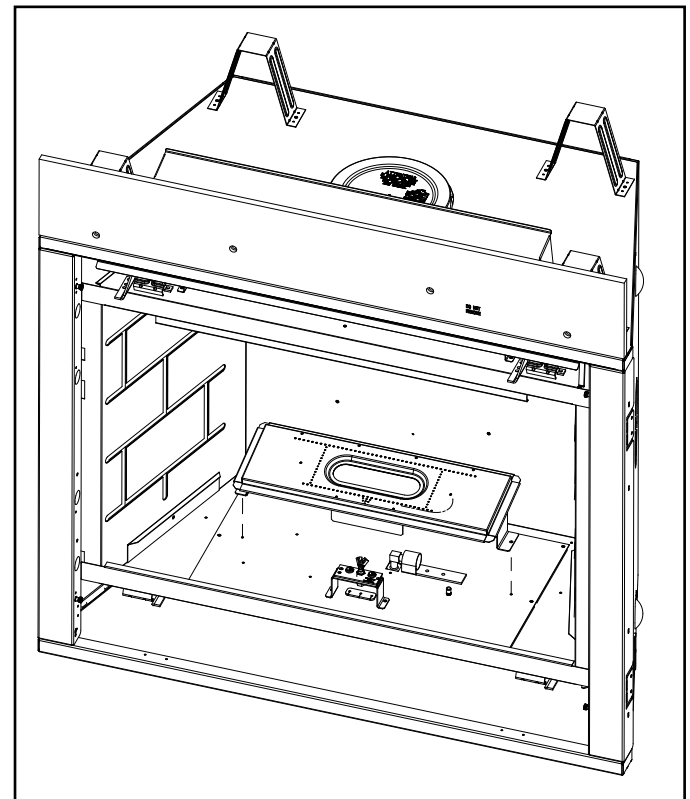

Figure 3.5 Burner Assembly Removal
5. Remove the burner assembly by removing the two screws as shown in Figure 3.5. To disengage the burner from the orifice, slide the burner to the right and lift it out.